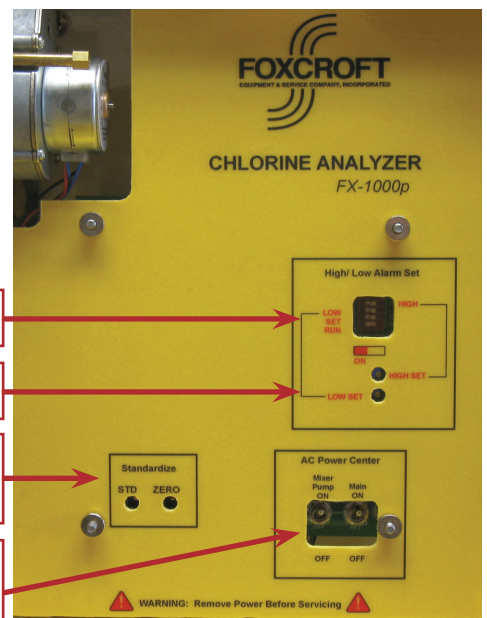

Figure 33
4. Locate the master switch and mixer switch, and set both switches to the on (up) position (**Figure 33**, below).